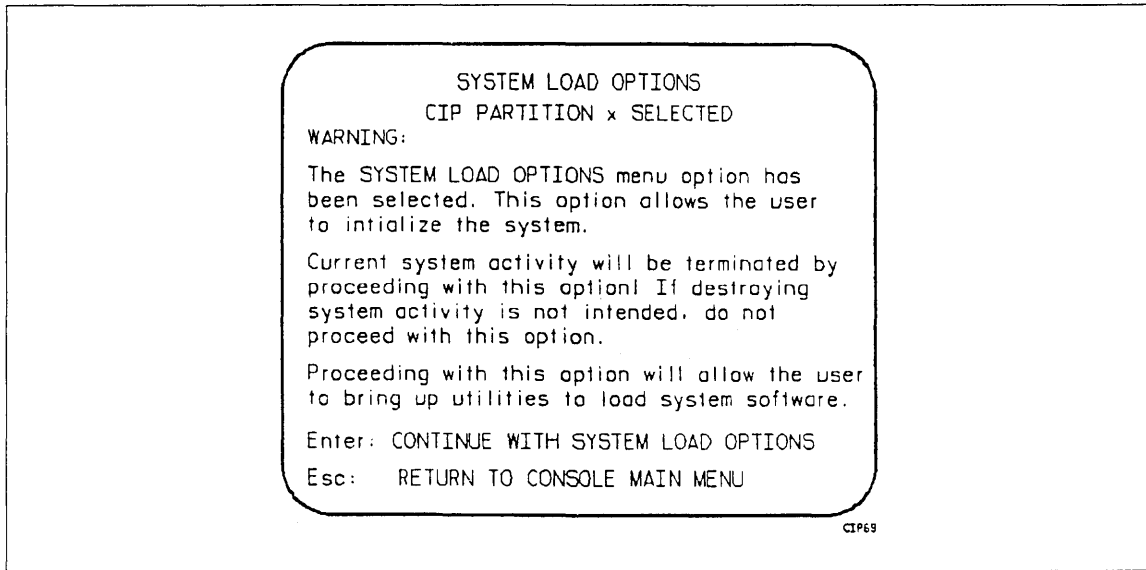

Figure 5-7. System Load Options Warning (CC598A Console)
- ___ 3. If the appropriate deadstart program is selected, enter S or press the Enter/Return key; the SYSTEM LOAD OPTIONS warning shown in figure 5-7 will appear. From this display, press the Enter key if you wish to proceed to the INITIAL OPTIONS display. Skip to step 7.